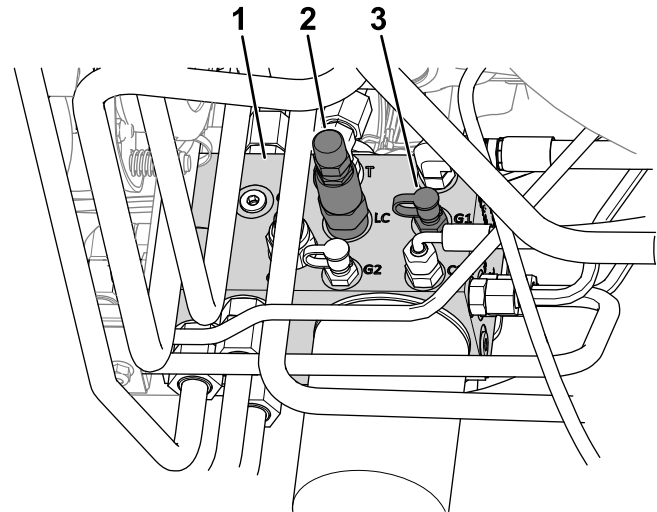

Figure 21
4. Connect a pressure gauge to the test port (labeled G1; refer to Figure 21).
2. Weight-transfer spool (LC)
5. At the side of the lift manifold, remove the cap from the test port (labeled G1; refer to Figure 21).
6. Loosen the jam nut at the end of the weight-transfer spool (labeled LC; refer to Figure 21).